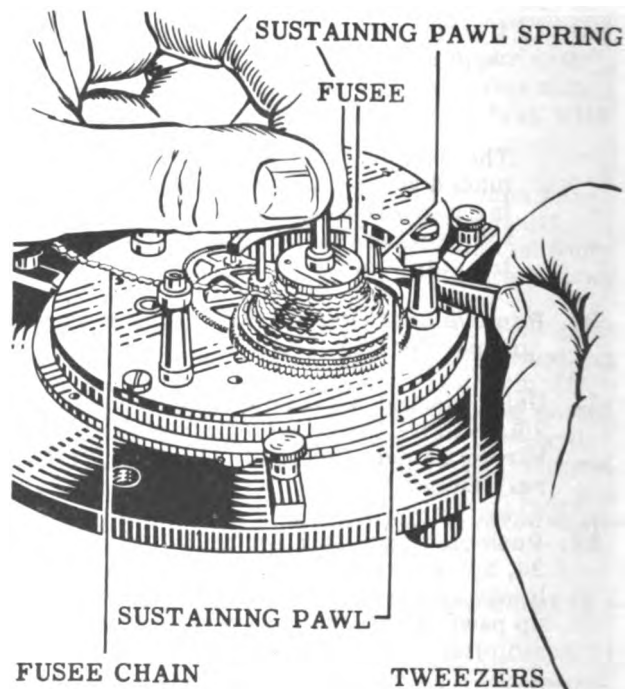

Figure 27
38. Release sustaining pawl and remove fusee. See Fig. 27.